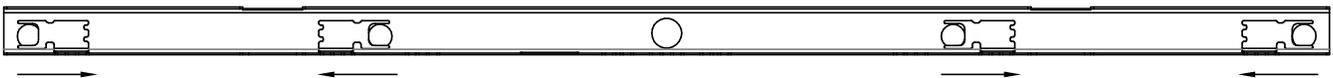

Figure 7: Orientation of sensors in rear camera and sensor bar.
Match the orientation of sensors to Figure 7.
4. **Install** sensor brackets into rear camera and sensor bar using the supplied 1/4-20 hex bolts and nuts (Figure 7).